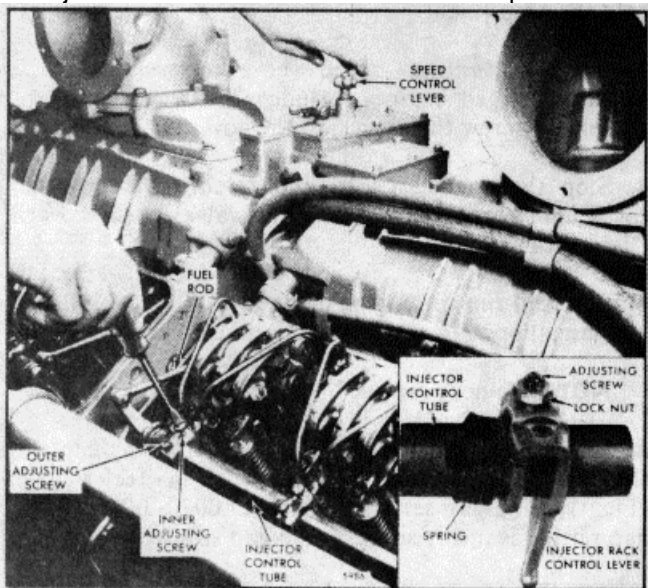

Fig. 12. - Positioning No. 4R Injector Rack Control Lever
The engines use spring-loaded injector control tube assemblies which have a yield spring at each injector rack control lever with one screw and locknut to keep each injector rack properly positioned (Fig. 12).
7. Hold the speed control lever with light finger pressure (Fig. 12) and tighten the adjusting screw of the No. 4R (16V-92) or No. 3R (12V-92) injector rack control lever until the injector rack clevis is observed to roll up or an increase in effort to turn the screwdriver is noted. Tighten the screw approximately 1/8 of a turn more and lock securely with the adjusting screw locknut. This will place the No. 4R (16V-92) or No. 3R (12V-92) injector rack in the full-fuel position.